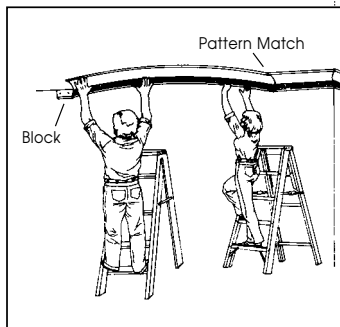

Figure 2
- Cut mouldings 1/4" longer and spring into place. If necessary, screw a wooden block to the wall and spring moulding against the block. Screw or nail moulding into place then remove the block (see Figure 2).